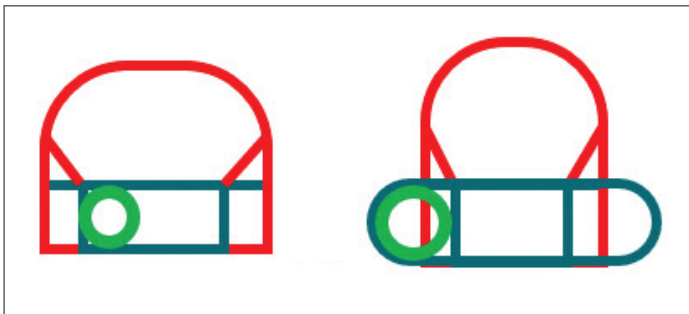

Figure 2
- d. The position of the tank could be fixed inside or besides/outside the frame (Fig. 2 illustration).